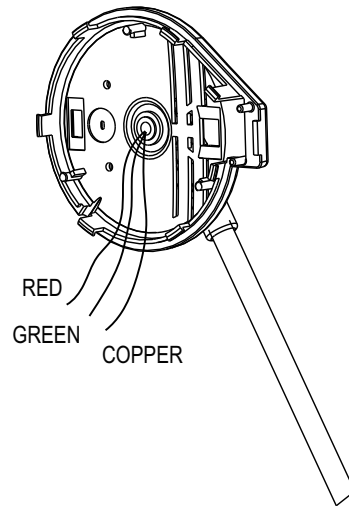

FIGURE 15. Airman 850 Headset, Boom Assembly Reference View
2. Connect the **red, green, and copper boom wires** to the test circuit. For more information, see Figure 15.